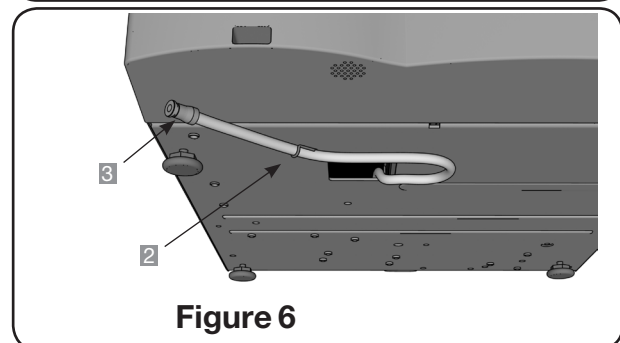

Figure 6
To prime the STATIM pump, follow these steps (see Figure 6):
2. Using the drain tube (see Section 3.5 Priming the Pump, Figure 6) empty the contents of the reservoir into the water container.